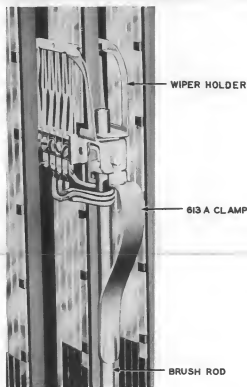

Fig. 6 — 613A Clamp Mounted in Position on Brush Rod
3.04 Mounting 613A Clamp: Fig. 6 — Raise the brush rod sufficiently to permit mounting the clamp. To mount the clamp, proceed as follows. From the right of the brush rod, hook the clamp behind the rod just below the commutator brush frame. Raise the clamp against
Guides: First place the left leg of the wiper holder over the brush rod and then the right leg as shown in Fig. 6. With the legs positioned on the rod, place the finger at the top of each side of the holder toward the rear. Press down equally on both sides until the triangular projection on the inside of the holder slips over the rear of the brush frame and snaps in place underneath the frame. In this position the ears on the inside of the holder should rest on the top surface of the brush frame. Check this by using the 376A dental mirror. Then proceed as covered in 3.13.